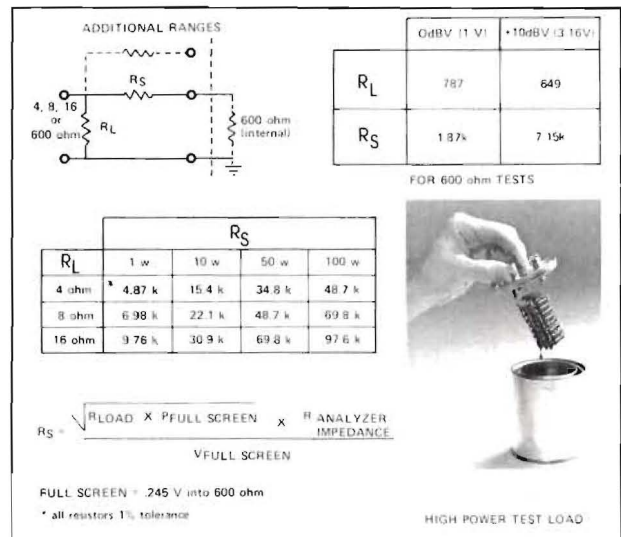

Figure 6 Load Matching Chart
Power amplifiers must be loaded to their characteristic impedance, within plus or minus 1% (usually 8 ohms). The resistor load should have no more than 2% reactive components. This restriction often precludes the use of some types of wirewound resistors. An accurate non-reactive, high power load can be constructed for the power level (wattage) and impedance required by connecting a number of one or two-watt carbon resistors in parallel. A photo of a homemade load constructed with 1 watt carbon resistors immersed in oil to dissipate extra power is shown in Figure 6.
The amplifier output must be matched to the 600 ohm spectrum analyzer input. A chart of values for 600 ohm amplifier matching pads as well as for other common values is also shown in Figure 6.
1. Select a load-matching resistor combination for the amplifier being tested from the chart in Figure 6. If the maximum power output is unknown, select a load-matching combination high enough to handle any anticipated power.